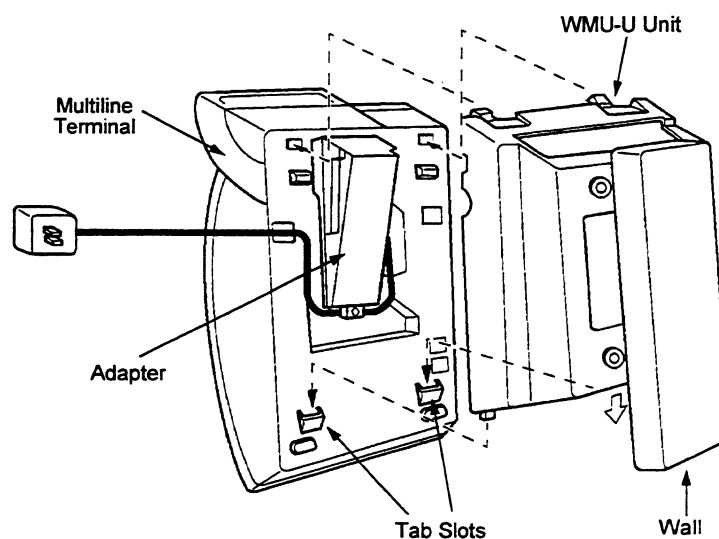

Figure 4-33 Attaching the Multiline Terminal to the WMU-U Unit
7. With the WMU-U Unit attached to the wall, hook the two bottom tabs on the WMU-U Mount Unit into the tab slots on the Multiline Terminal. Then push the two top tabs on the WMU-U Unit into the tab slots on the Multiline Terminal. If the adapter has a power supply, lead the AC adapter cord out through the opening at the bottom of the Multiline Terminal. Refer to Figure 4-33 Attaching the Multiline Terminal to the WMU-U Unit.